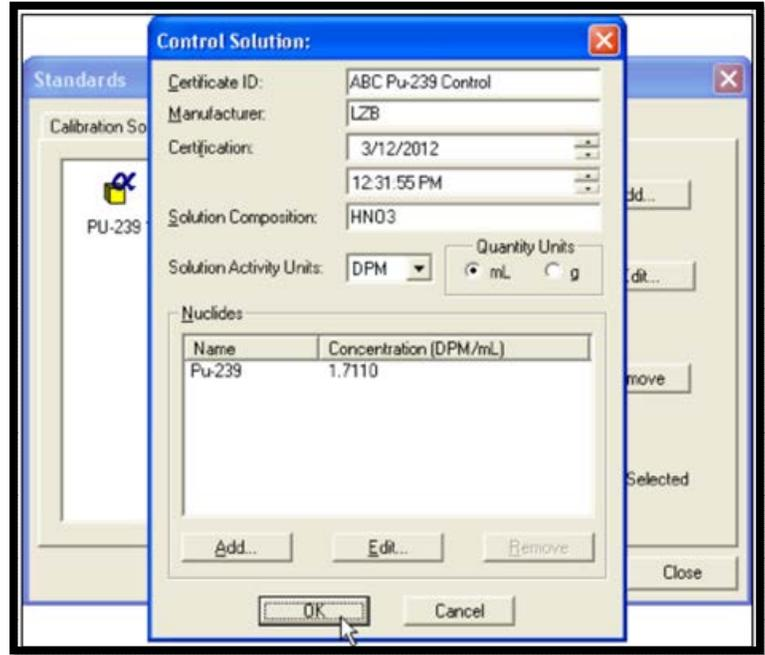

Figure 75. Control Solution
- 5) Click OK to return to the Control Solution dialog (Figure 75).